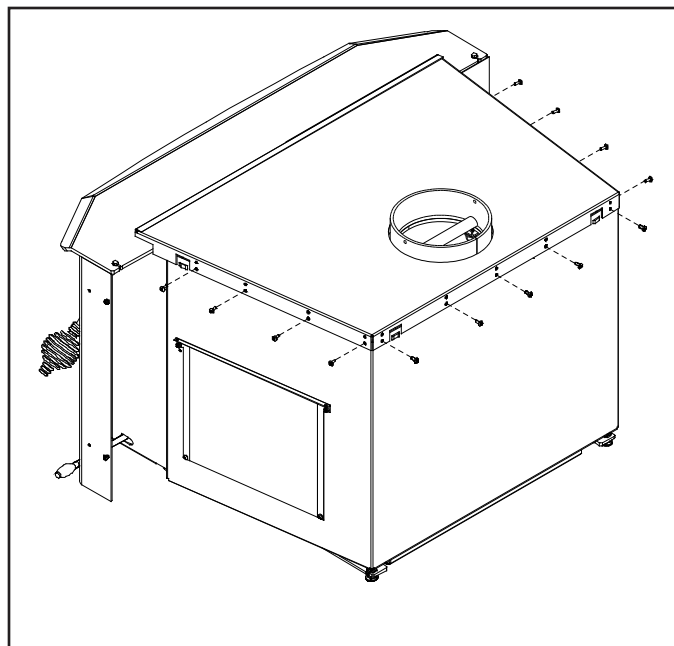

Figure 20: Removing Cabinet Top from Unit.
1. Remove the thirteen T-20 screws holding the cabinet top in place (refer to Figure 20).